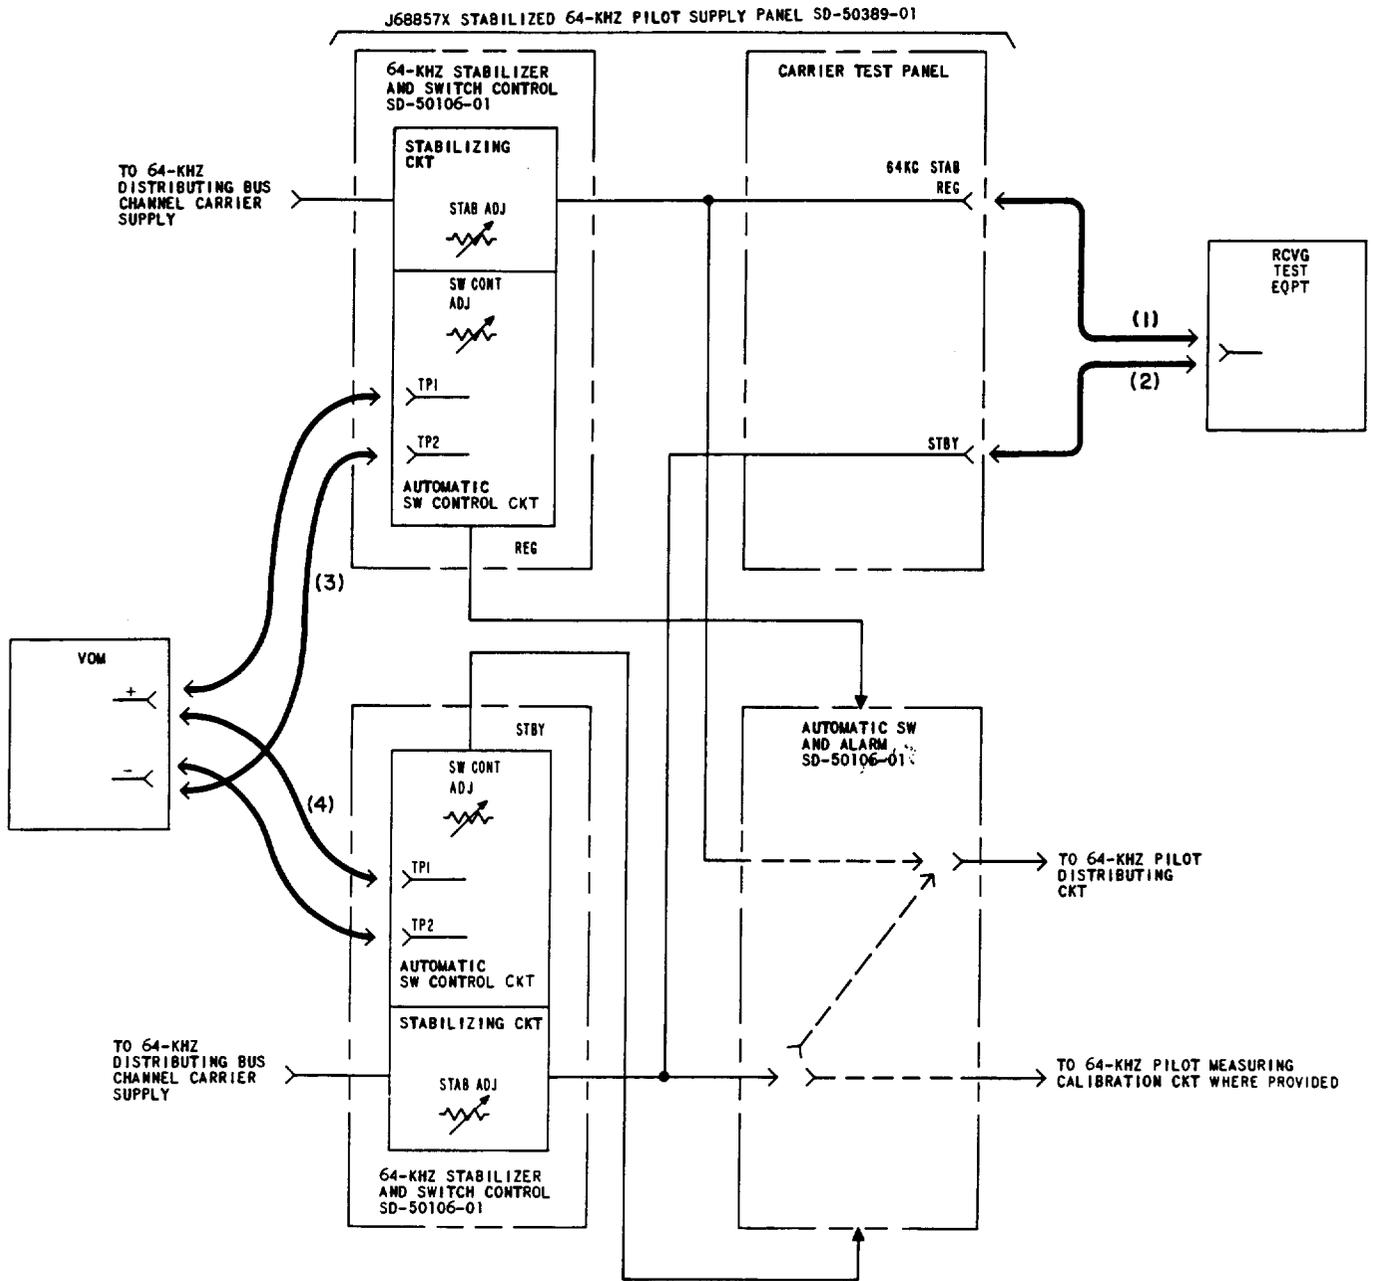

Fig. 1—64-KHZ Stabilizer and Alarm Test
<p>Note: The requirements in this section are based upon the power level of the 64-kHz input signal being correct. The 64-kHz signal from the channel carrier supply may be tested in accordance with Section 356-250-502.</p> <p>Caution: Simultaneous removal of both stabilizers will cause a service interruption.</p> <p>Stabilizer</p> <p>1 Set up and calibrate the receiving test equipment for a 135-ohm terminated measurement of 64-kHz at 0 dBm.</p> <p>2 Make patch designated (1) in Fig. 1.</p> <p>Note: Side contacts on the REG test jacks will cause automatic switching from regular to standby stabilizer units and loss of test signal to the 64-kHz pilot measuring circuit. Transfer is indicated by the BUS ON STBY lamp.</p> <p>3 Measure the power at the 64KC STAB REG test circuit jacks.</p> <p>Requirement: 0.0 dBm \pm0.05 dB.</p> <p>4 If the requirement of Step 3 is met, proceed to Step 8.</p> <p>5 If the requirement of Step 3 is not met, adjust the STAB ADJ control on the REG 64-kHz stabilizer and switch control front panel for a measurement of 0.0 dBm.</p> <p>6 If the requirement of Step 3 cannot be met, replace the REG 64-kHz stabilizer and switch control unit.</p> <p>7 Repeat Steps 3, 4, and 5.</p> <p>8 Remove patch (1) and make patch designated (2) in Fig. 1.</p> <p>Note: The pilot supply will witch to the REG stabilizer unit. Transfer is indicated by the BUS ON REG lamp.</p> <p>9 Repeat Steps 3 through 7 for the STBY 64-kHz stabilizer.</p> <p>10 Remove patch designated (2) in Fig. 1.</p> <p>Switch Control Unit</p> <p>11 Make patch designated (3) in Fig. 1.</p> <p>12 Measure the voltage.</p> <p>Requirement: 8.3 \pm0.1 volts dc.</p> <p>13 If the requirement of Step 12 is met, proceed to Step 17.</p>
17	Remove patch (3) and make patch designated (4) in Fig. 1.